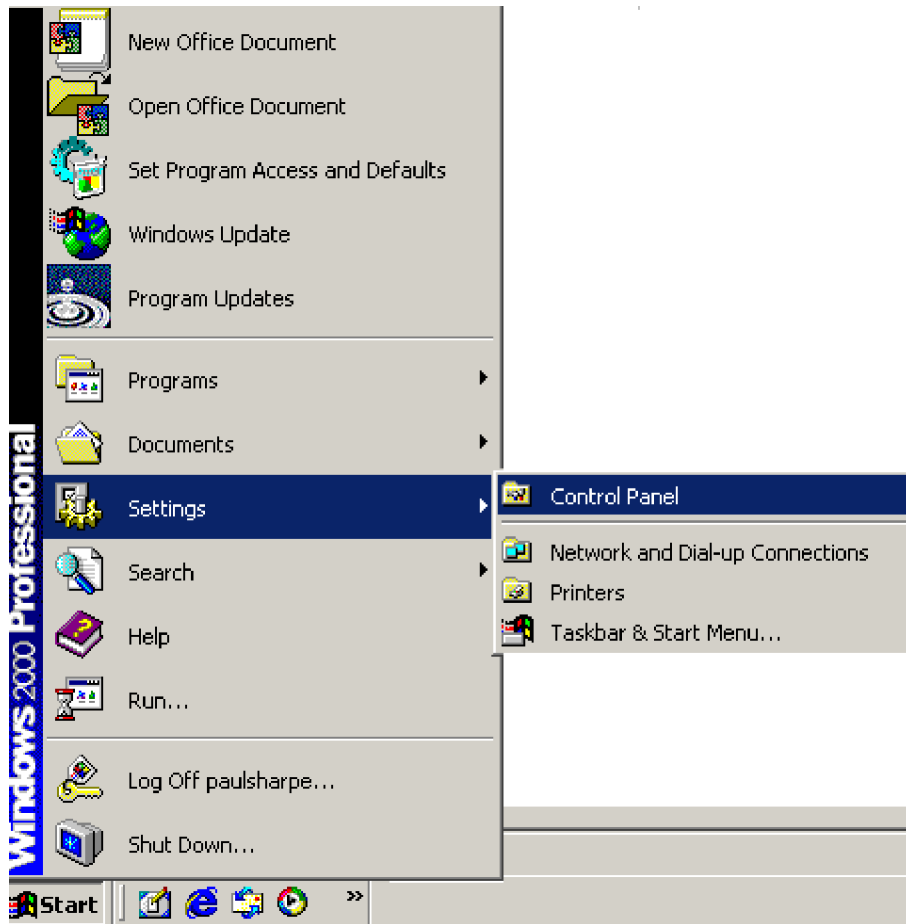

Figure 6-3: Access Windows Control Panel
Step 1: Open **Windows Control Panel** (**Figure 6-3**).